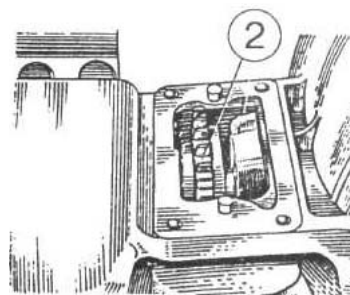

Figure 4.42
d) pull out gear 2 (Figure 4.42) with two bearings and two rings through upper hatch of clutch body;